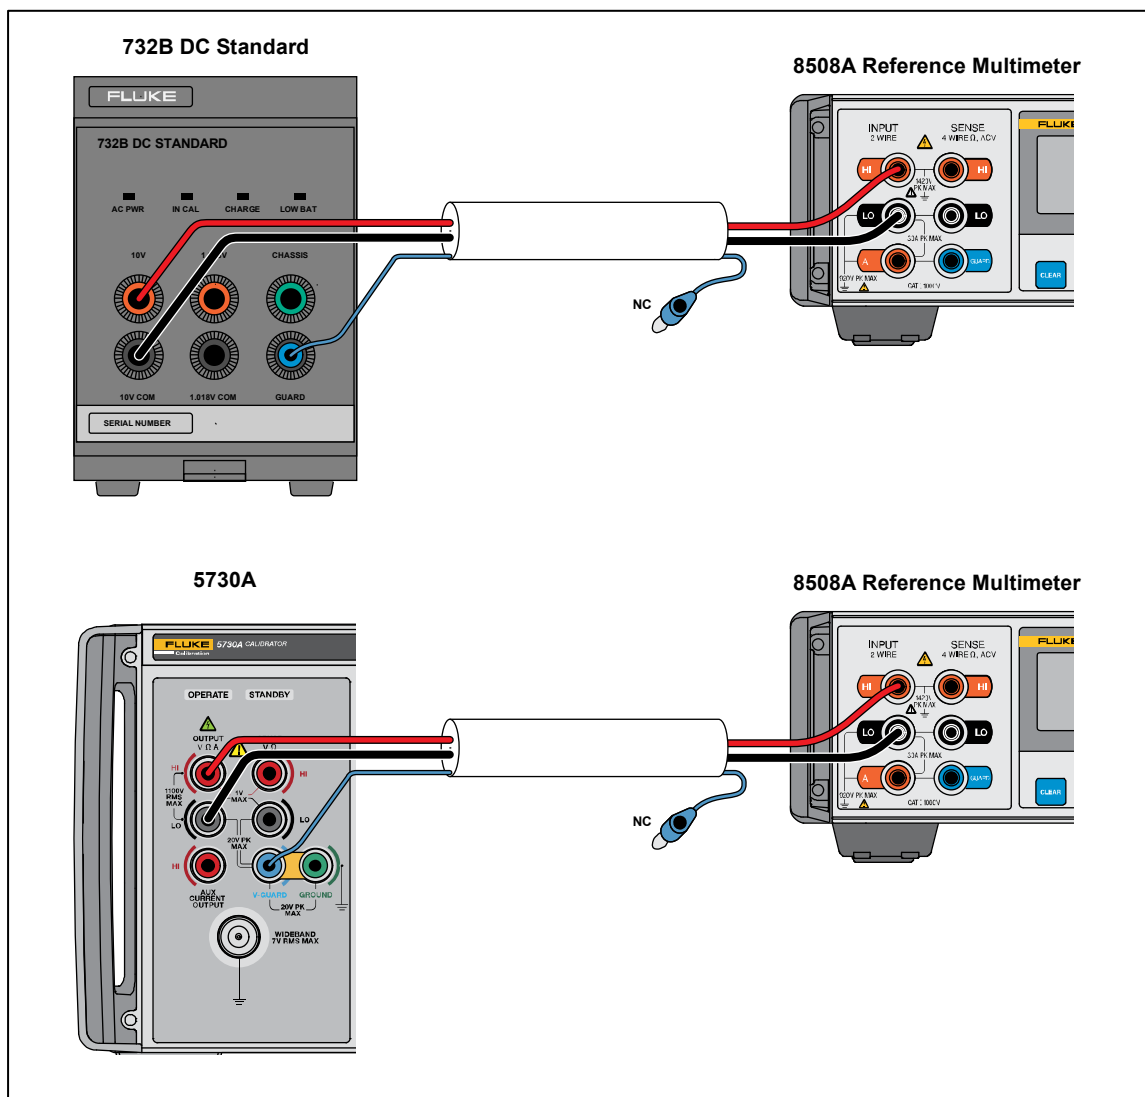

Figure 15. 19 V DC Verification Connections
1. For this test, connect the 10 V standard to the 8508A as shown in Figure 15.
5. Connect the Product to the 8508A as shown in Figure 15.
10. Connect the Product to the 8508A as shown in Figure 15.